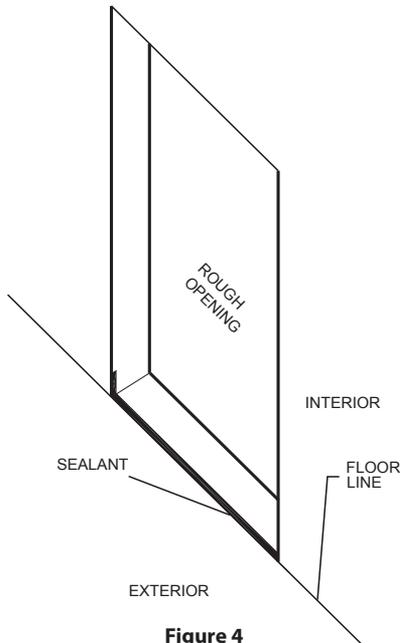

Figure 4
4. Apply a 1" continuous bead of sealant (pumpable caulk or sealant tape) on the floor so that the outside edges (both sides) of the frame sill will be sealed to the floor extending about 6" up the frame/jamb (see Figure 4). Before using sealant, see Caution in item number 5.